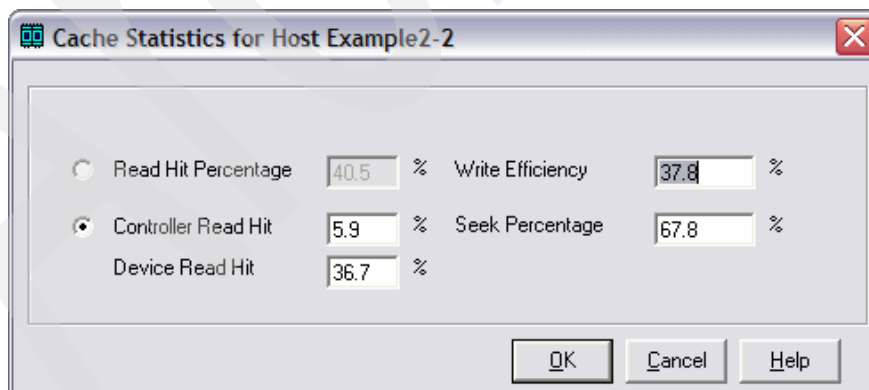

Figure 4-54 Current cache usage of workloads
6. Select the iSeries Workload tab, and click **Cache Statistics**. The Cache Statistics for Host window opens and shows the current cache usage. Figure 4-54 shows the cache usage of the second i5/OS system. Click **OK**.